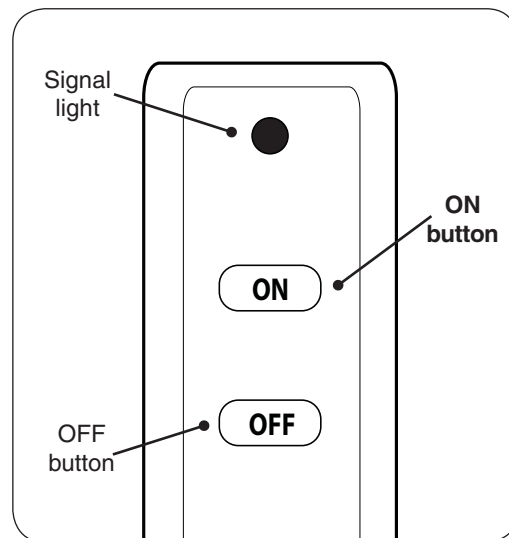

Fig. 19-2 Remote transmitter detail
2. Locate the remote transmitter and press the **ON** button (see Fig. 19-2). The ignition sequence will begin.